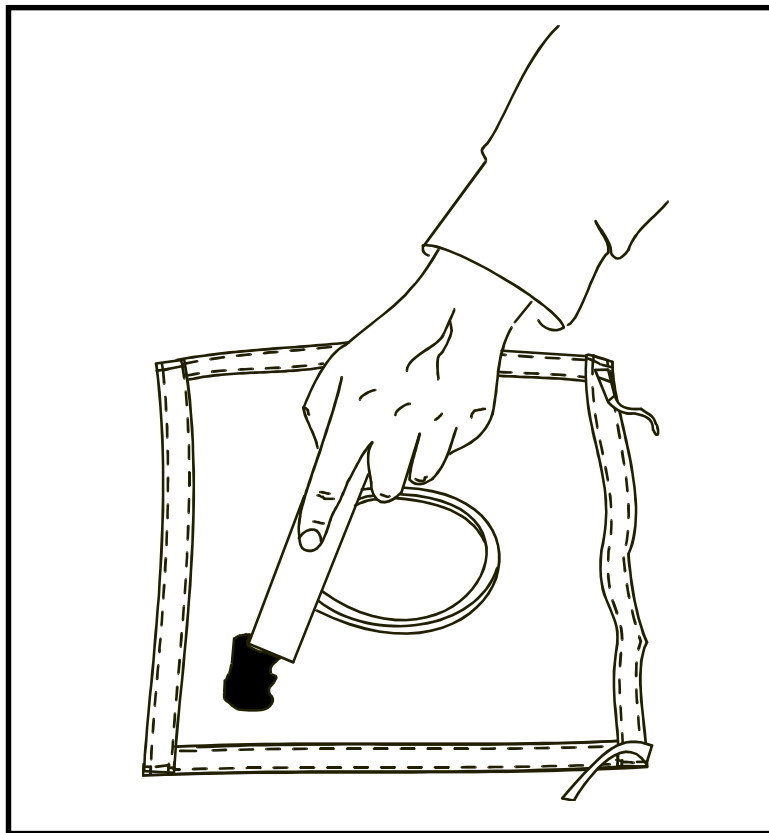

Figure 10-3. Using sealer to repair a small hole
a. Repairs for Small Holes and Tears. A layer of silicone sealer is used to repair a hole or tear that measures 2 inches or less across. To make this repair (Figure 10-3)--
- (1) Obtain cleaning materials, a dry rag, a can of silicone sealer (MIL-A-46106), and a paddle.
- (2) Clean and dry the damaged area thoroughly.
- (3) Spread a 1/16-inch-thick layer of sealer on both sides of the shield. Cover the hole or tear and at least 1/2 inch on each side of the damage. Smooth out the layer as evenly as possible.
- (4) Brace the shield so that the sealer does not touch anything while it is wet.
- (5) Let the sealer dry for 4 hours on a sunny day with low humidity. Let it dry for 6 hours on a humid day. Do not move the tent while the sealer is drying.